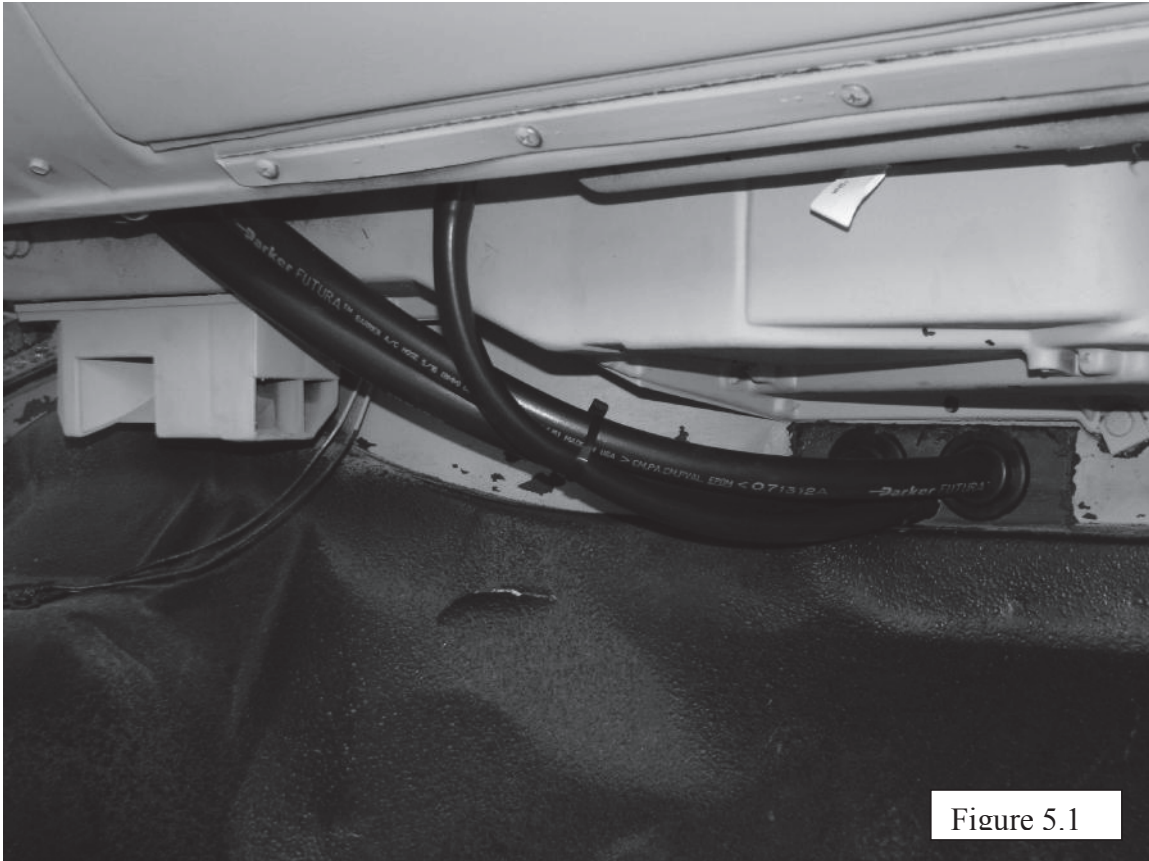

Figure 5.1
- 2) The two hoses that connect to the evaporator will run under the factory heater box and out through the firewall. Figure 5.1